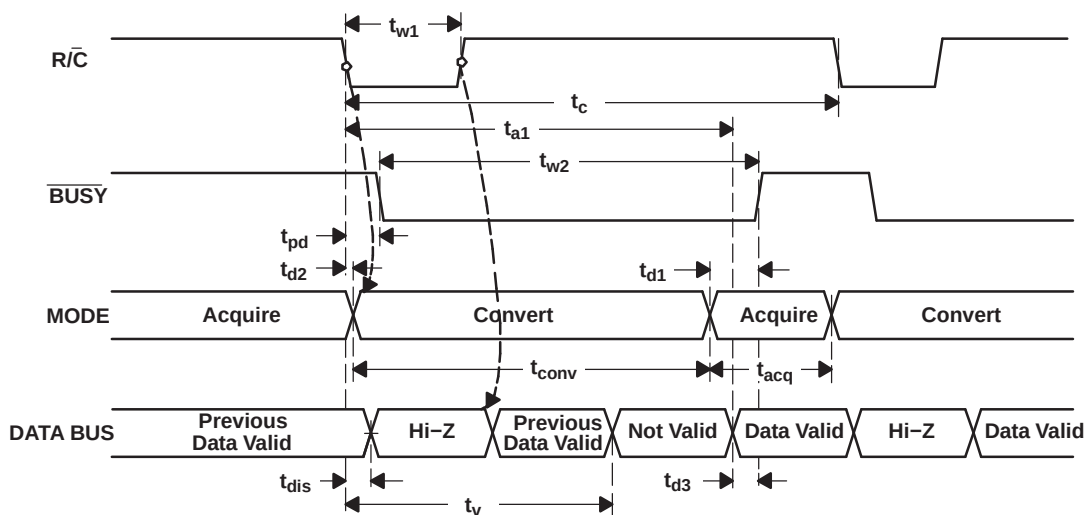
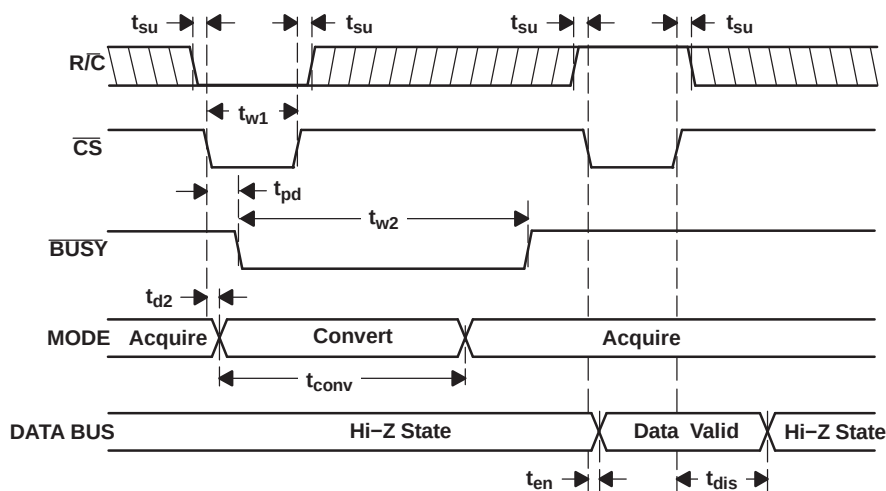
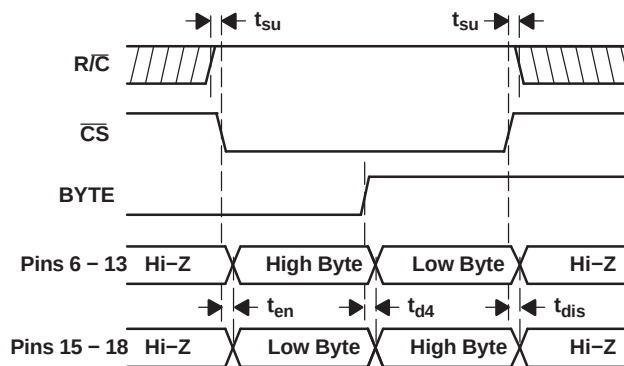

Figure 19. Conversion Timing with Outputs Enabled after Conversion ($\overline{\text{CS}}$ Tied Low)
Figure 20. Using $\overline{\text{CS}}$ to Control Conversion and Read Timing
Figure 21. Using $\overline{CS}$ and $\overline{BYTE}$ to Control Data Bus
The ADS8504 begins tracking the input signal at the end of the conversion. Allowing 4 μ s between convert commands assures accurate acquisition of a new signal. Refer to Table 1 for a summary of $\overline{CS}$, $\overline{R/\overline{C}}$, and $\overline{BUSY}$ states and Figure 19, Figure 20, and Figure 21 for the timing diagrams.
(1) See Figure 19 and Figure 20 for constraints on data valid from conversion $n-1$.
After conversion n is completed and the output registers have been updated, $\overline{\text{BUSY}}$ (pin 26) goes high. Valid data from conversion n is available on D11-D0 (pins 6-13 and 15-18). $\overline{\text{BUSY}}$ going high can be used to latch the data. Refer to Table 3 and Figure 19, Figure 20, and Figure 21 for timing specifications.
After conversion n has been initiated, valid data from conversion $n-1$ can be read and is valid up to t_2 (2.2 μs typ) after the start of conversion n . Do not attempt to read data from t_2 (2.2 μs typ) after the start of conversion n until $\overline{\text{BUSY}}$ (pin 26) goes high; this may result in reading invalid data. Refer to Table 3 and Figure 19, Figure 20, and Figure 21 for timing specifications.
The number of control lines can be reduced by tying $\overline{\text{CS}}$ low while using the falling edge of $\text{R}/\overline{\text{C}}$ to initiate conversions and the rising edge of $\text{R}/\overline{\text{C}}$ to activate the output mode of the converter. See Figure 19.